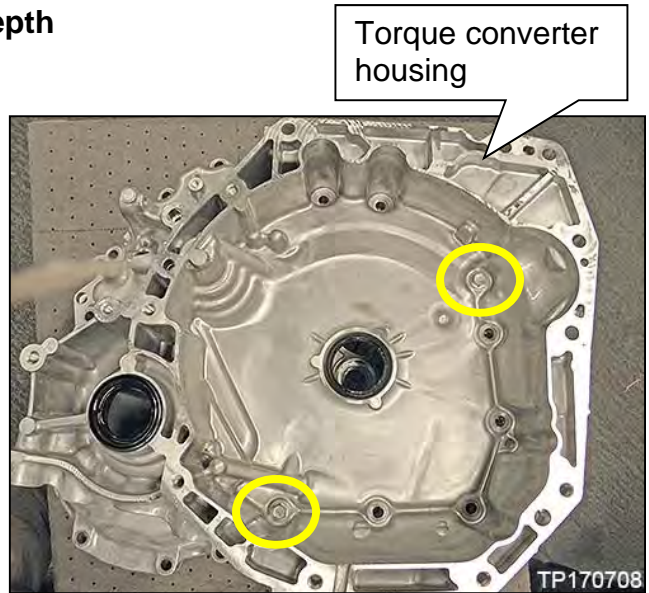

Figure 128
98. Temporarily install the torque converter housing to the CVT case with two (2) bolts at opposite corners, hand tight (Figure 128).